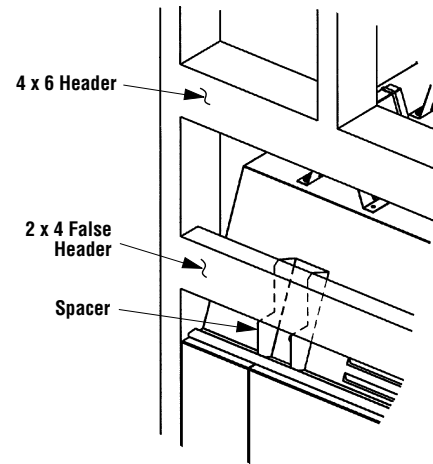

Figure 10
Step 3. Refer to fireplace drawings and specifications on pages 7 and 8 for framing dimensions and details. False header may be positioned directly on top of the fireplace spacers (see Figures 10, 11 and 12).
IMPORTANT: UNDER NO CIRCUMSTANCES CAN THE FIREPLACE TOP SPACERS (FIGURE 10) BE REMOVED OR MODIFIED, NOR MAY YOU NOTCH THE HEADER TO FIT AROUND OR BE INSTALLED LOWER THAN THE SPACERS. THE HEADER MAY BE IN DIRECT CONTACT WITH THE TOP SPACERS BUT MAY NOT BE SUPPORTED BY THEM.